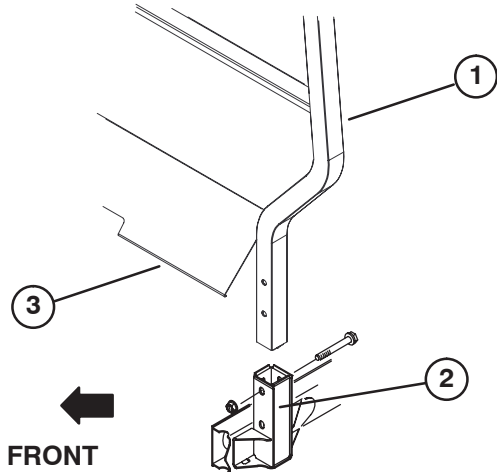

Figure 1
1. Insert each side of ROPS into mounting bracket on each side of vehicle frame, positioning ROPS as shown in figure 1.